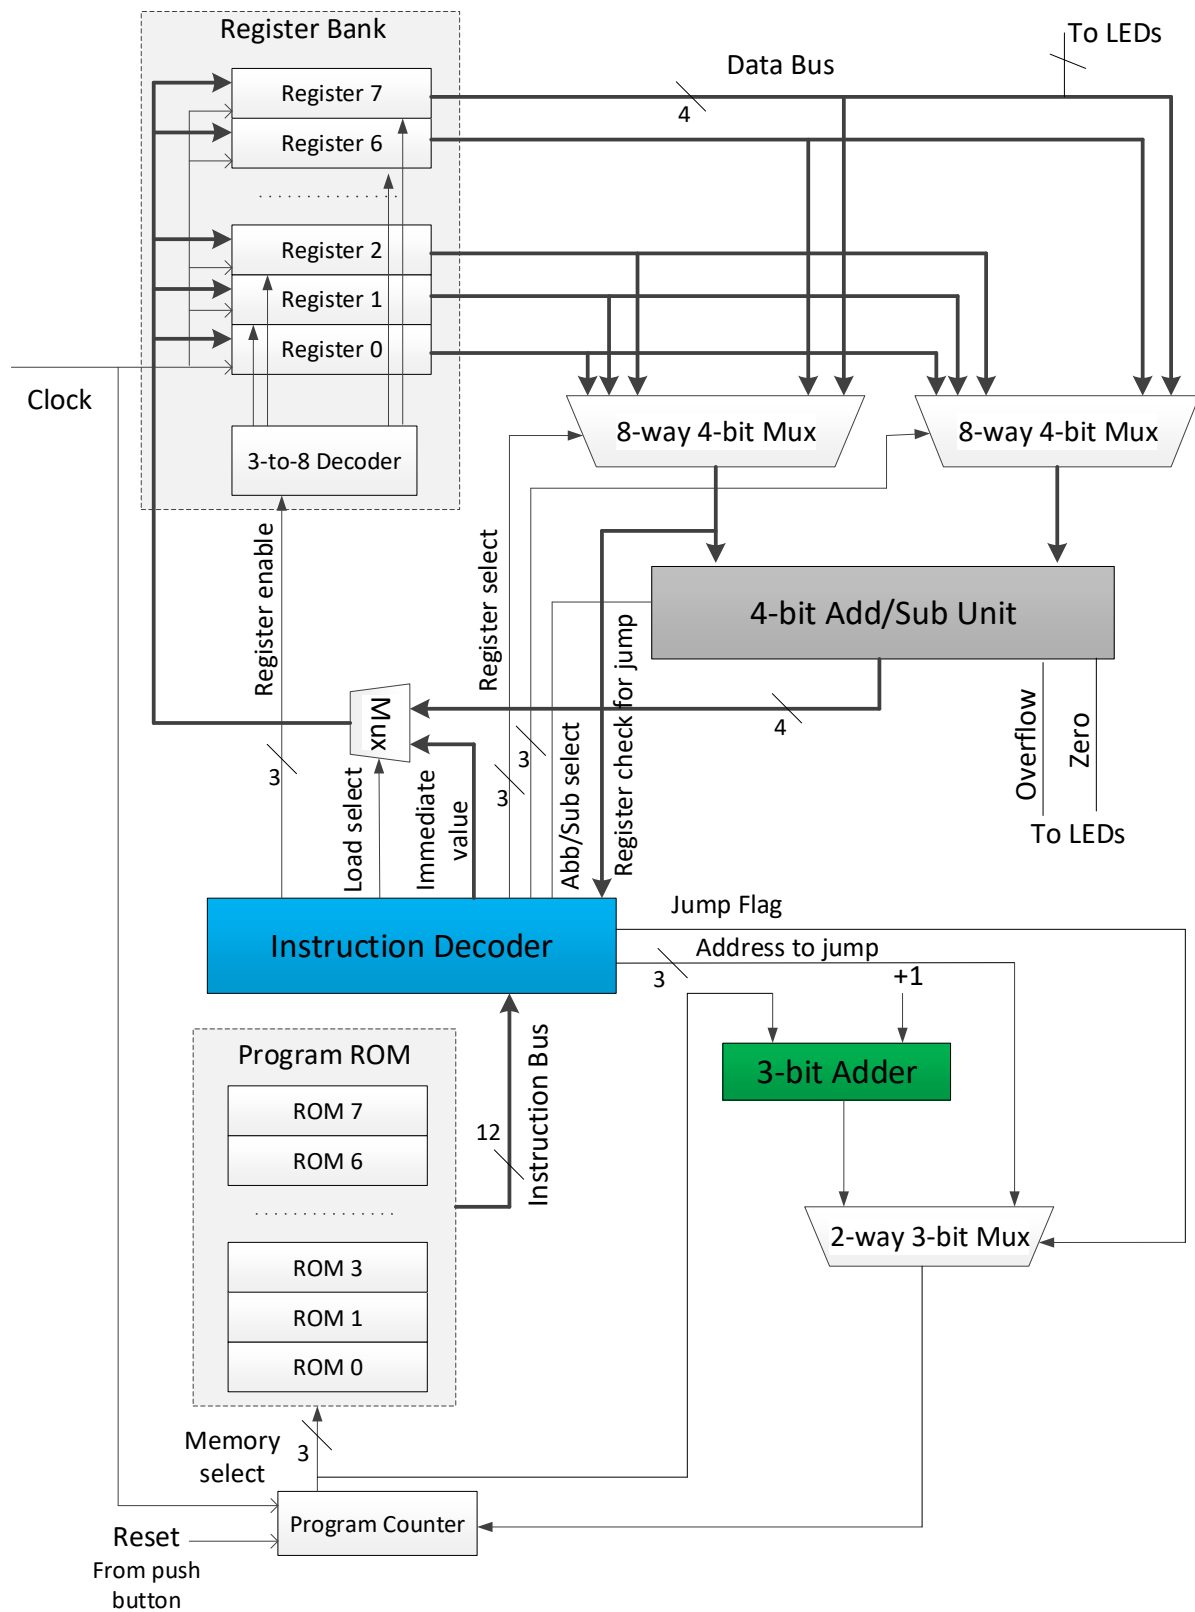

Figure 1 – High-level diagram of the nanoprocessor.
We will design a very simple microprocessor (hence, called a *nanoprocessor*) capable of executing a simple set of instructions. Block diagram of the nanoprocessor is given in Fig. 1. Set of instructions supported by the nanoprocessor is given in Table 1. To build this circuit, we need to develop/extend several components/modules:
- As we do not have a separate instruction to reset a register, we will use D Flip Flops with a reset input and connect the reset input to Reset button (not shown in Fig. 1 for simplicity). This could be connected to the same pushbutton connected to the Reset input of Program Counter (see Fig. 1)